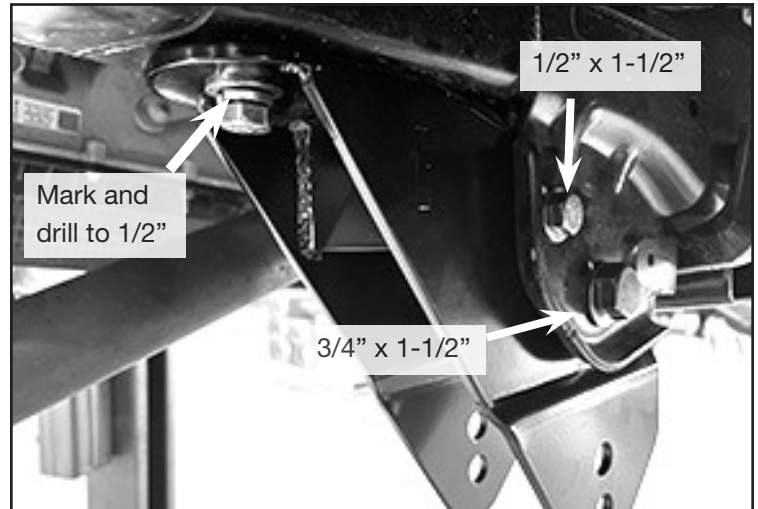

FIGURE 13 - STEP 18
18. Install FT31079 (Radius Arm Drop Bracket) to the factory radius arm pocket using the supplied 3/4" x 1-1/2" Bolts, washers and nuts and 1/2" x 1-1/2" bolts, washers and nuts. **NOTE: The 1/2" bolt location will need to be drilled out to accommodate the 1/2" hardware.** Locate the forward hole on the new bracket, use this to mark the frame. Remove the bracket and drill the factory frame using a 1/2" drill bit. Reinstall the bracket. **Install hardware on both sides of the pocket. SEE FIGURE 13**